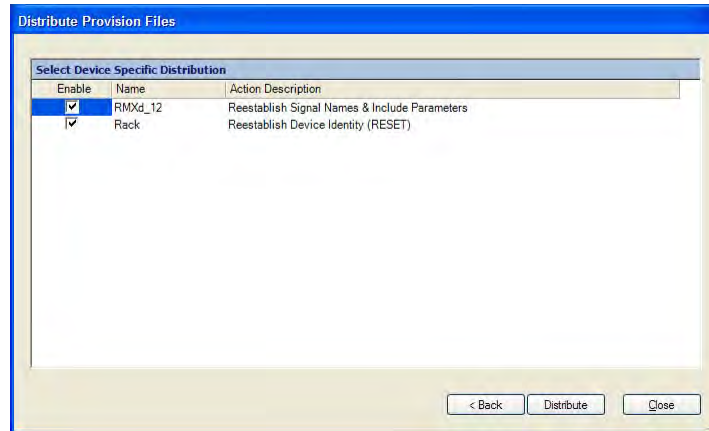

Figure 4-17. Distribute Provision Files – Select Device Specific Dialog Box
5. If you selected **Normal Download** or **Force Download**, a second **Distribute Provision Files** dialog box appears (Figure 4-17) so that you can **Select Device Specific Distribution**.